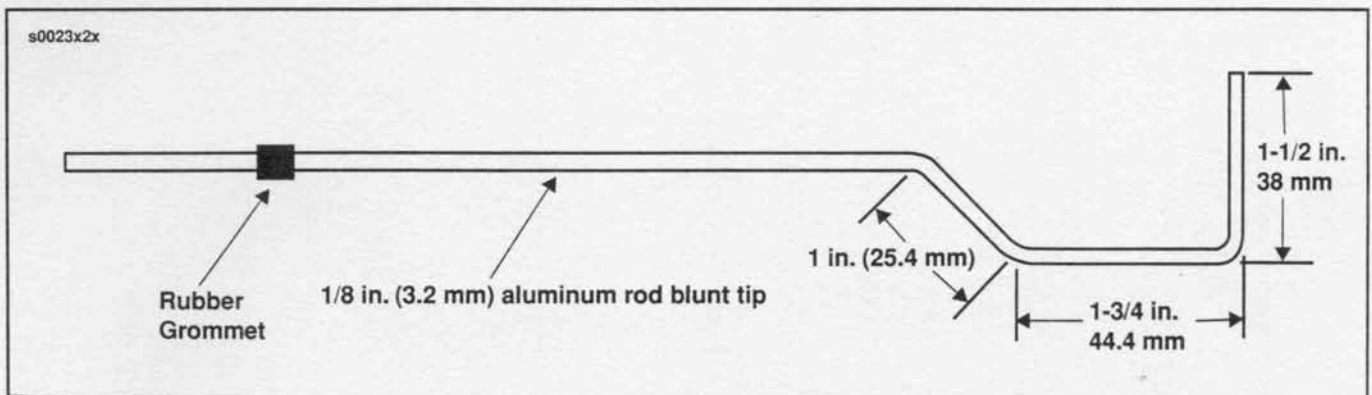

Figure 2-41. Alignment Gauge
1. See Figure 2-41. To get an accurate measurement, make a gauge from 1/8 in. aluminum welding rod, 25 in. long, as shown. Place a snug fitting grommet on the rod to act as a slide measurement indicator.